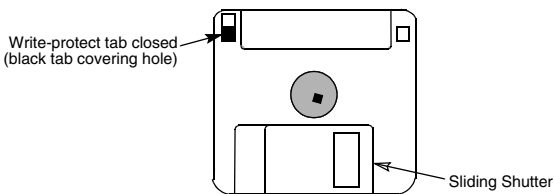

Figure 10. Floppy disk (3.5 inch) with write-protect tab closed.
Be certain that the write-protect tab is closed on the disk (Figure 10). Insert a patient data disk firmly into the disk drive on the right side of the PRM until the disk ejection button protrudes.
- Do not try to open the sliding shutter that covers the disks (Figure 10).
NOTE: *The write-protect tab must be closed in order to record data to the disk and to print reports. If data cannot be recorded to the disk, check to see that the tab is positioned to cover the hole (Figure 10).*